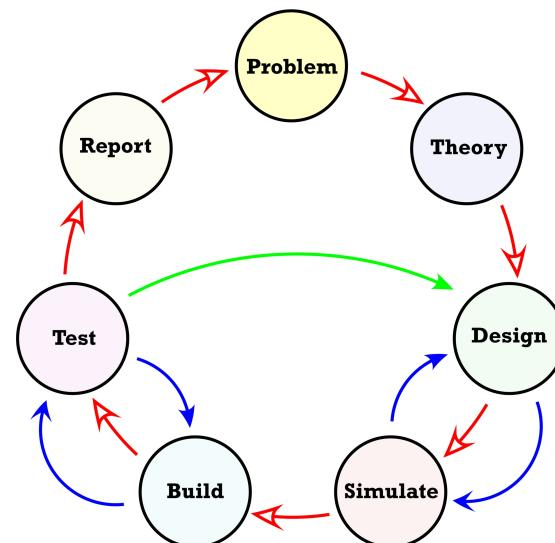

Figure 7: Engineering Design
- Apply the design paradigm of Figure 7.